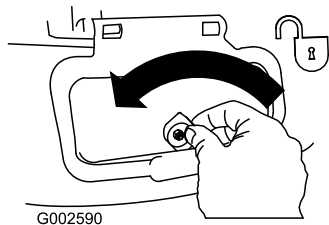

Figure 29
1. Unlock the side discharge door (Figure 29).